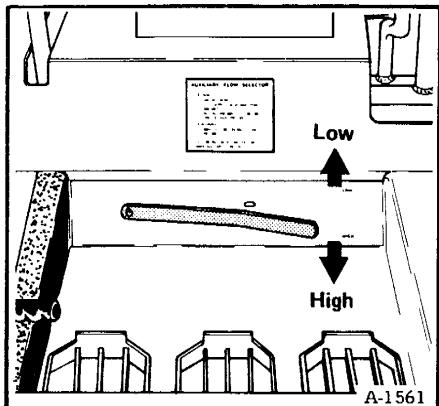

Fig. 10 Auxiliary Flow Selector
**AUXILIARY FLOW SELECTOR** (Figure 10) The M-970 is equipped with a hydraulic flow control. The operator may select, at his option, fast or slow auxiliary hydraulic functioning. Moving selector lever up will provide for 14 GPM delivery. Moving selector down will provide for 40 GPM. The Auxiliary Flow Selector Control lever is located immediately below the operator seat.